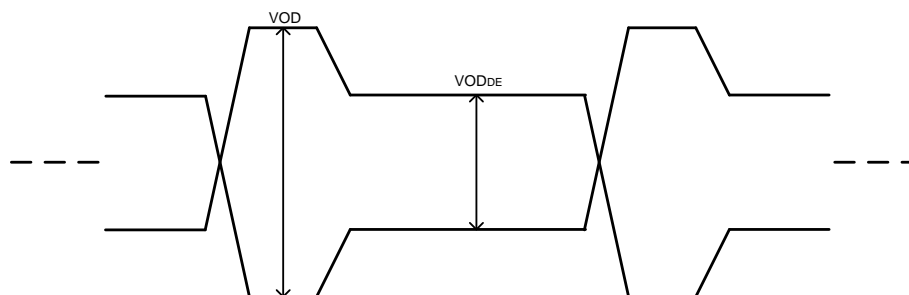

Figure 13. VOD and VOD_{DE} Levels
(1) The output drivers are capable of providing higher VOD and DEM levels (max settings are 7). For more VOD and de-emphasis levels, refer to 表 10.
(2) See Figure 13.